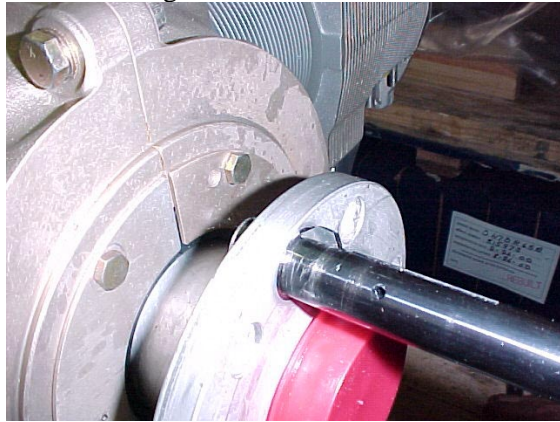

FIGURE 11
2. Using the chamfering tool provided in the tool kit, chamfer the core sample hole I.D. on the front and aft faces of the propeller flange. See Figure 11.